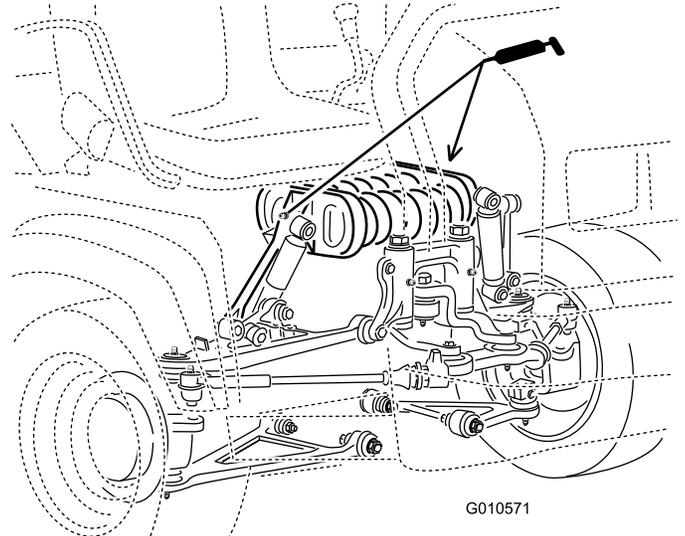

Figure 49
Spring tower (2); refer to Figure 49